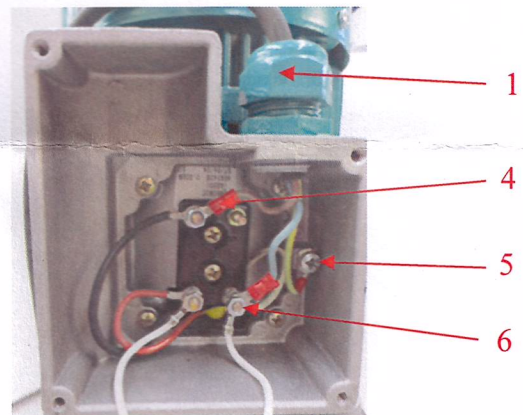
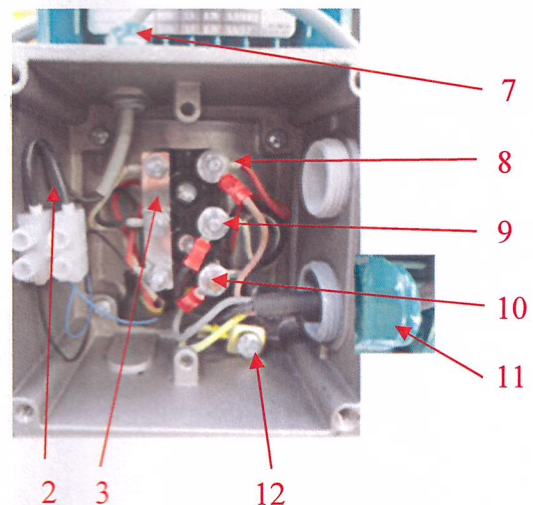

Figure 1 Pump type (S6) Wilo MVIL
Figure 2 Pump type S10/S16 Wilo MVI
- 1) Open the connection box of the pump and disconnect the pump cable (4), (5) and (6) for MVIL/ S6 and (8), (9), (10) and (12) for MVI/S10/S16, (see figure 1 and 2).
- 2) For MVI/S10/S16: disconnect wires (2) for pump temperature measurement, see figure 1.
- 3) Remove cable(s) through the cable gland(s) (1) for MVIL/S6; 7 and 11 for MVI/S10/S16.
- 5) Remove gaskets /note: Non-return valve (15) is not fix jet, only MVI/S10/S16.
- 6) Remove the pump from the frame by loosen the nuts (13) at the pump foot and lifting the pump out of the frame.
- 11) Connect the pump cable, through the cable gland, as shown in figure 1 and figure 2.
- 12) Connect for MVIL/ S6 the brown (4), blue (6), and yellow/green (5) wire, as shown on figure 1.
- 13) Connect for MVI/S10/S16 the brown (8), black (9) grey (10) and yellow/green (12) wire as shown on figure 2.
- 14) For MVI(S10/S16): connect the cable for pump temperature cable (2) as shown in figure 2.